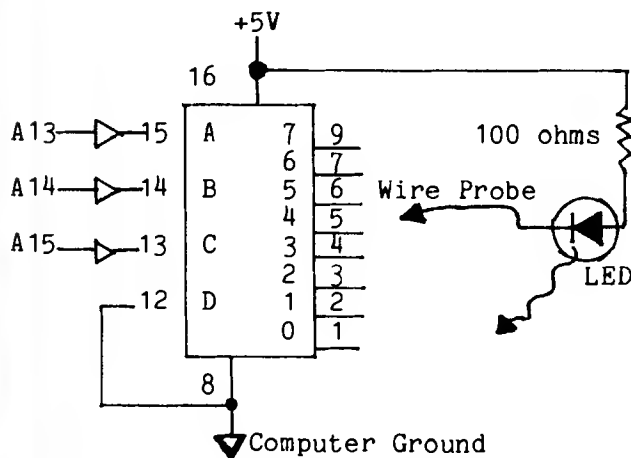

Figure 3. Decoding the Highest Three Address Lines.
To begin to see how this is done, construct the circuit shown in Figure 3.
(There are many decoding schemes and circuits, the circuit of Figure 3 is just one possible technique.) Here is where your breadboard becomes useful. Connect the address lines from your 6502 system to the 74145. (KIM owners can do this with no buffering because lines A15-A13 are not used on the KIM-1. Owners of other systems should check to see if the address lines are properly buffered.) Now perform the following experiments:
2. Run the program and with the wire probe shown in Figure 3, test each of the output pins (pins 1-7 and 9). Which ones cause the LED to glow?
Table 4. Truth Table for 74LS145 when connected as shown in Figure 3.
(The more precocious of my attentive readers may already see that the scheme of Figure 3 could also be used to pre-set or clear a flip-flop to control an external device, for example, a heater, and all that without even using the data lines. If you see all that, you can take over this column.) See you next issue.